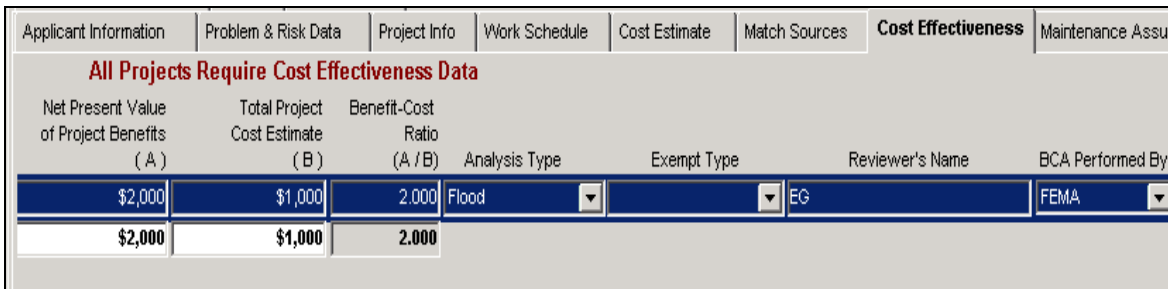

Figure 6-58: Cost Effectiveness Data Fields - Left Side
2. On the bottom left part of the Cost Effectiveness tab, click the NEW button. A new row for adding cost Effectiveness information is displayed (Figure 6-58).